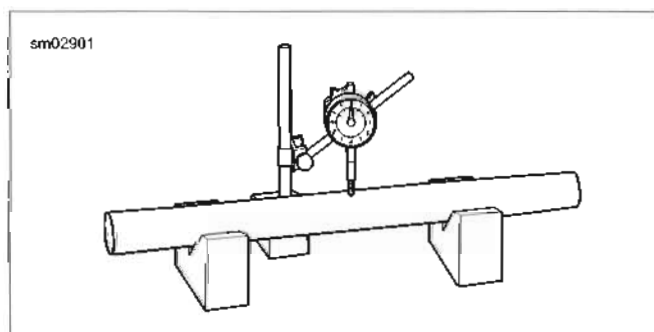

Figure 2-81. Measure Fork Tube Runout
- See Figure 2-81. Check runout with a dial indicator.